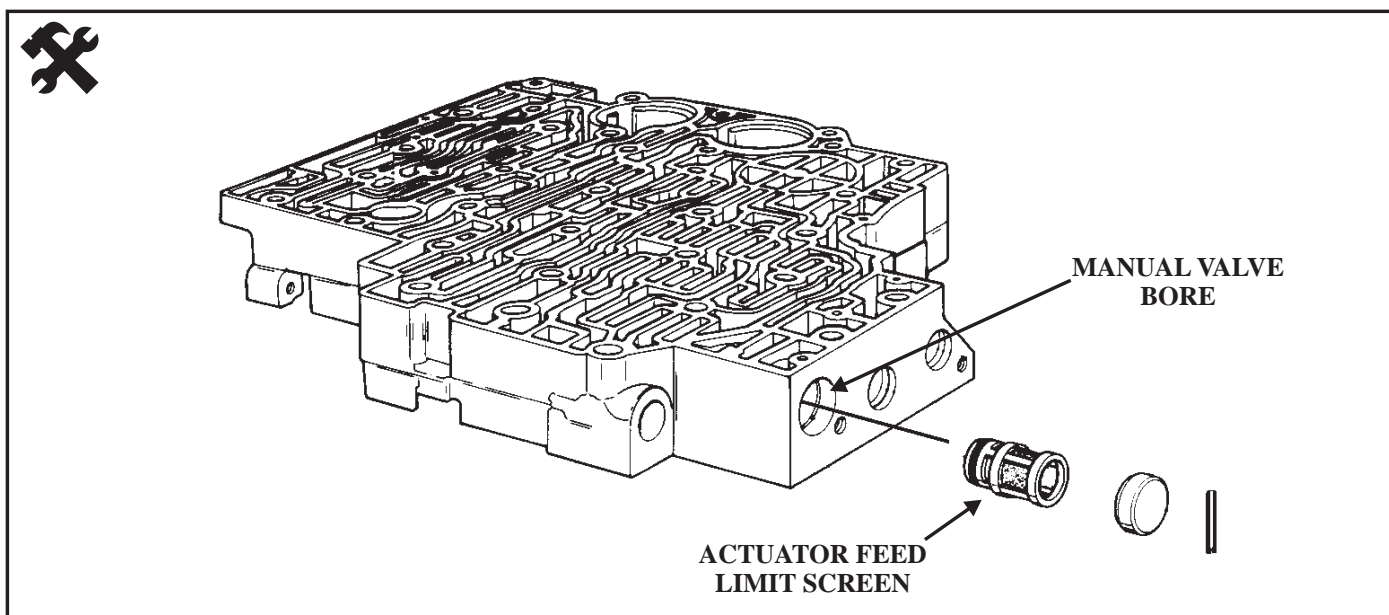

Figure 129
- Always replace the AFL screen and o-ring located in the manual valve bore, (Refer to Figure 129). Most shift improvement kits provide a replacement device that does not break. A broken AFL screen can cause second gear only even though solenoid command is correct.